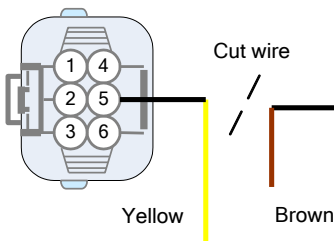

figure 3.
- Cut the wire from position 5 of the connector. Solder the yellow wire on wire position 5 at the connector side. Solder the brown wire on wire position 5 at the main harness side (fig.3)